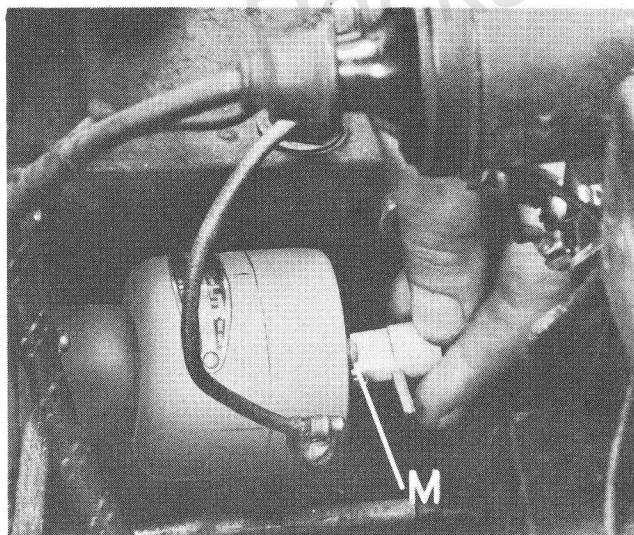
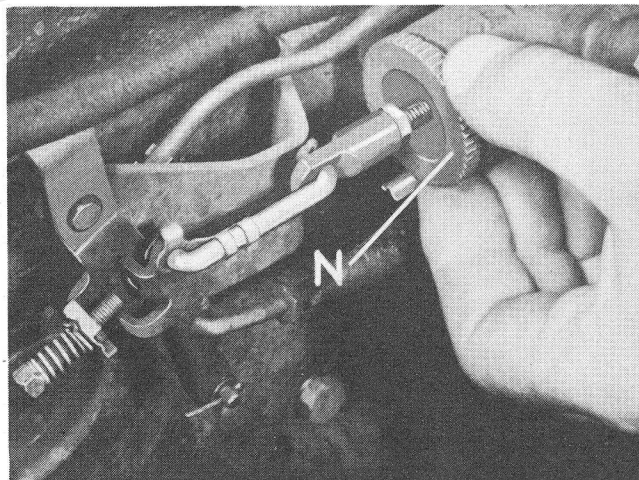

Figure 12—Turning Solenoid Core Stop (M) Adjusts Rate of Engagement in Second and High Speeds
Figure 15—Adjusting Body Plug (N) to Obtain Correct Clutch Engagement for Making Fast Starts
With the gearshift in second speed position, the car should begin to creep forward smoothly at approximately 900 rpm engine speed. If the engagement is too sharp (grabs), turn the knurled adjusting screw clockwise (M, Fig. 12), 1/4 turn
a. Screw the body plug (N, Fig. 15) out until the clutch grabs when starting from a standing position with full throttle. Then turn in one notch at a time until smooth engagement is obtained. If clutch slippage is excessive during the intermediate portion of the engagement, after car starts to move but before full clutch engagement, screw out the second and high adjusting nut (M, Fig. 12) to reduce slippage.